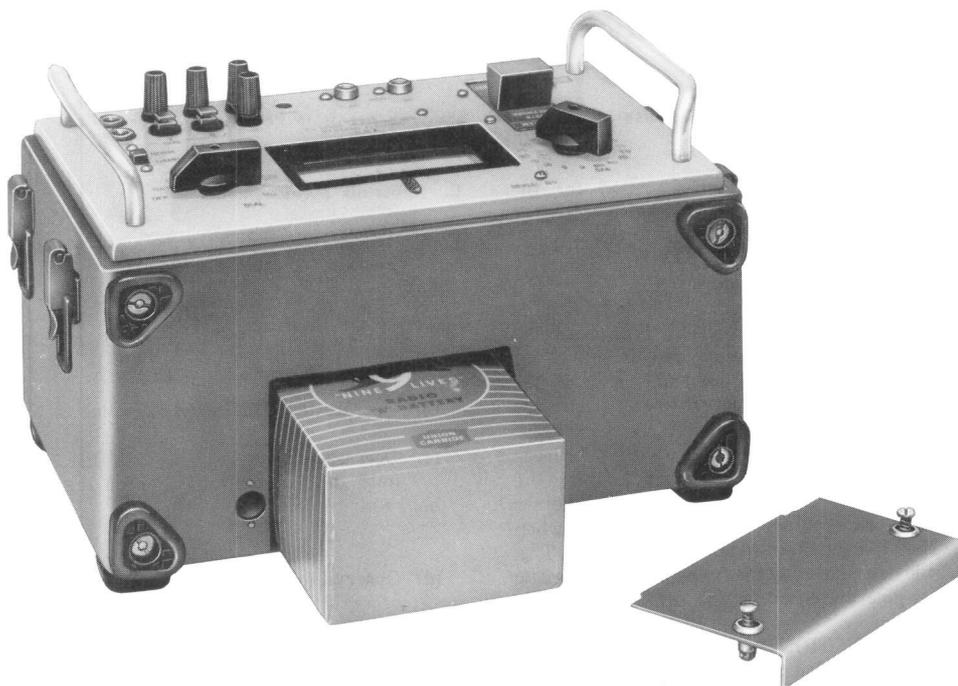

Fig. 10—J94003C Noise Measuring Set, Showing Access to Battery
6.01 To remove the battery in the 3C NM set, unscrew the captive screws and remove the cover plate as shown in Fig. 10. Slide the battery out of the compartment and remove the battery plug from the old battery. Replace the battery with a new equivalent battery listed below: